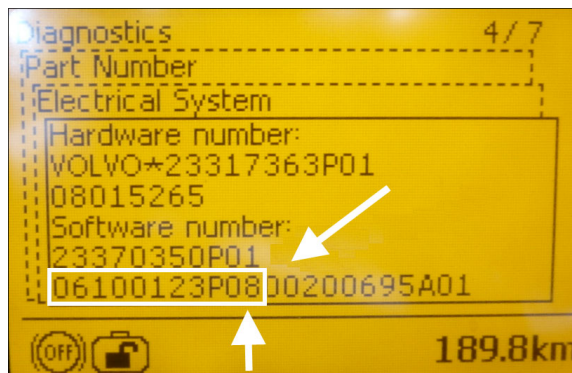

FIGURE 4
5. The DID shows the software number (program number) and the actual revision number just after the letter "P" for the vehicle. The example in Figure 4, the program number is 06100123 and the actual revision number is P08.